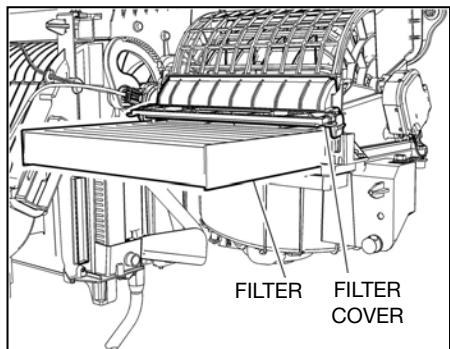

Fig. 25
3. Remove cabin air filter cover (see *Fig. 25*).